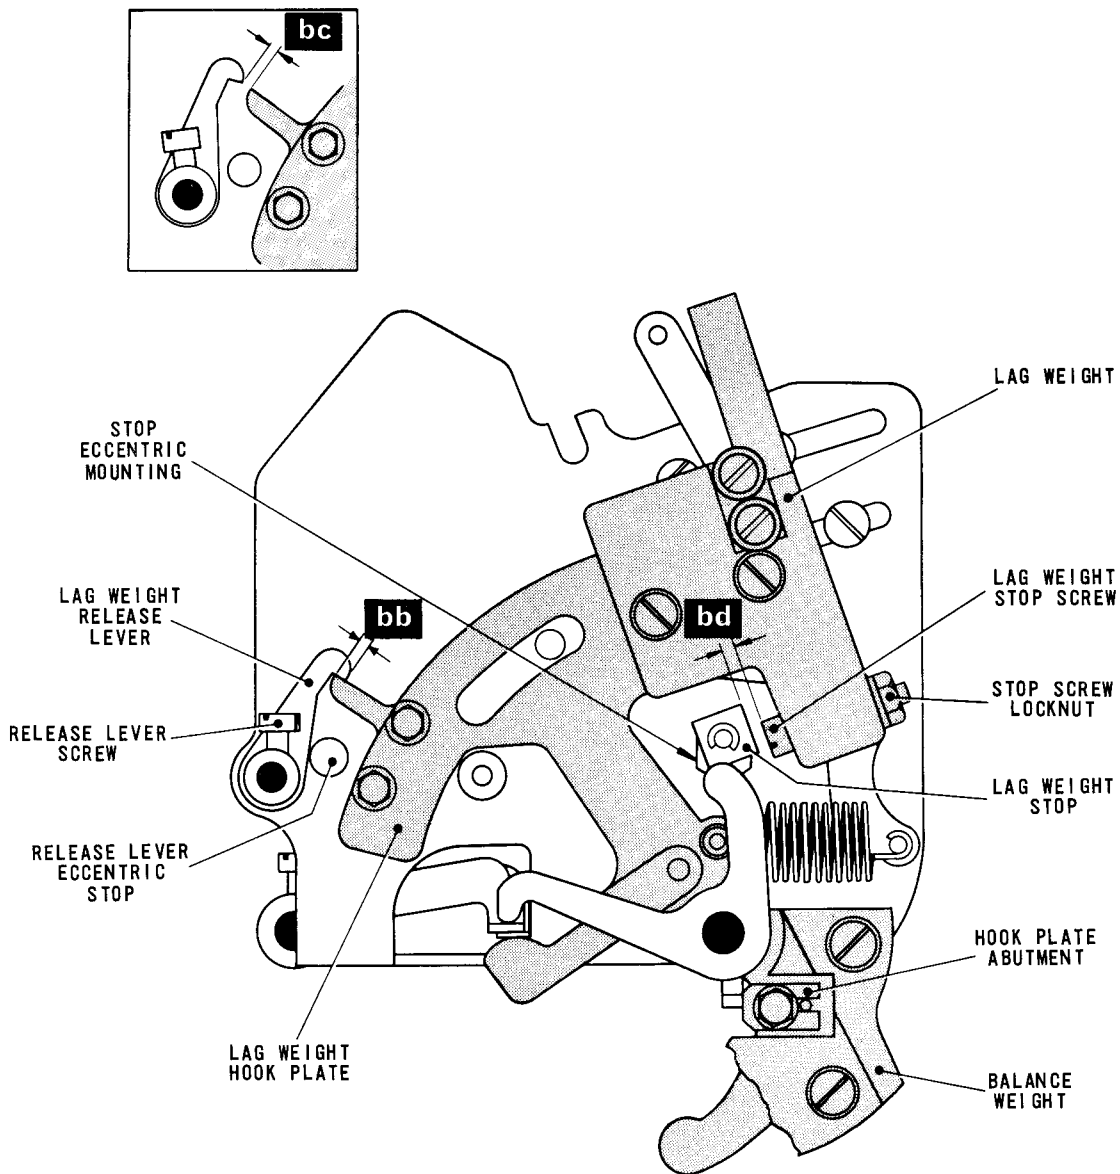
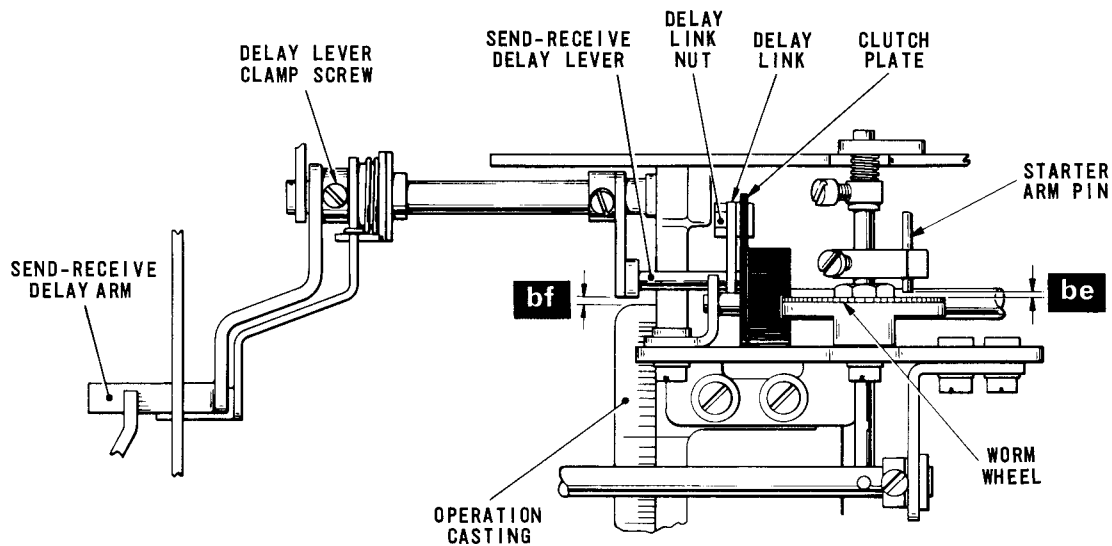

Fig. 4.60 LAG WEIGHT MECHANISM
Fig. 4.61 SEND-RECEIVE SWITCH DELAY LINKAGE
- 73.1 With the machine in the rest position, check that there is an estimated engagement of .030 - .045 in. (dimension 'bb') between the latching face of the lag weight release lever, Fig.4.60, and the projection on the lag weight hook plate.
- 74.1 Hold the lag weight, Fig.4.60, to prevent it moving and depress any key on the keyboard. Check that the lag weight release lever is now lifted clear of the projection on the lag weight hook plate by an estimated .015 - .045 in. (dimension 'bc' - inset).
- 75.1 Ensure that the translator camshaft is in the rest position. Depress the letter 'X' (MSMMM) key and check that the lag weight hook plate, Fig.4.60, is now in contact with the lag weight stop.
- 76.1 Depress any key on the keyboard and, with the lag weight hook plate, Fig.4.60, against the lag weight stop, check that there is a maximum clearance of .003 in. (dimension 'be') between the starter arm pin, Fig.4.61, and the worm wheel.
- 76.2 To adjust, return the machine to the rest position and remove the balance weight, Fig.4.60. Slacken the screw clamping the abutment and move the abutment to its extreme right-hand position. Depress any key again and, with the lag weight hook plate held against the stop, adjust the abutment until the required clearance between the starter arm pin, Fig.4.61, and the worm wheel is obtained. Clamp the abutment, Fig.4.60, in this position with its screw and refit the balance weight.
- 77.1 Depress any key on the keyboard and turn the machine by hand until the send-receive delay lever, Fig.4.61, is in its lowest position. Check that there is now a radial clearance of .015 - .045 in. (dimension 'bf') between the delay lever and the left-hand side of the orientation casting.
- 79.3 If the contact changeover is early, slacken the nut securing the link, Fig.4.61, to the clutch plate and slide the link to the right. Tighten the nut. Repeat Checks 79.1 and 79.2 and, if necessary, Adjustment 79.3 until both the above conditions are satisfied.